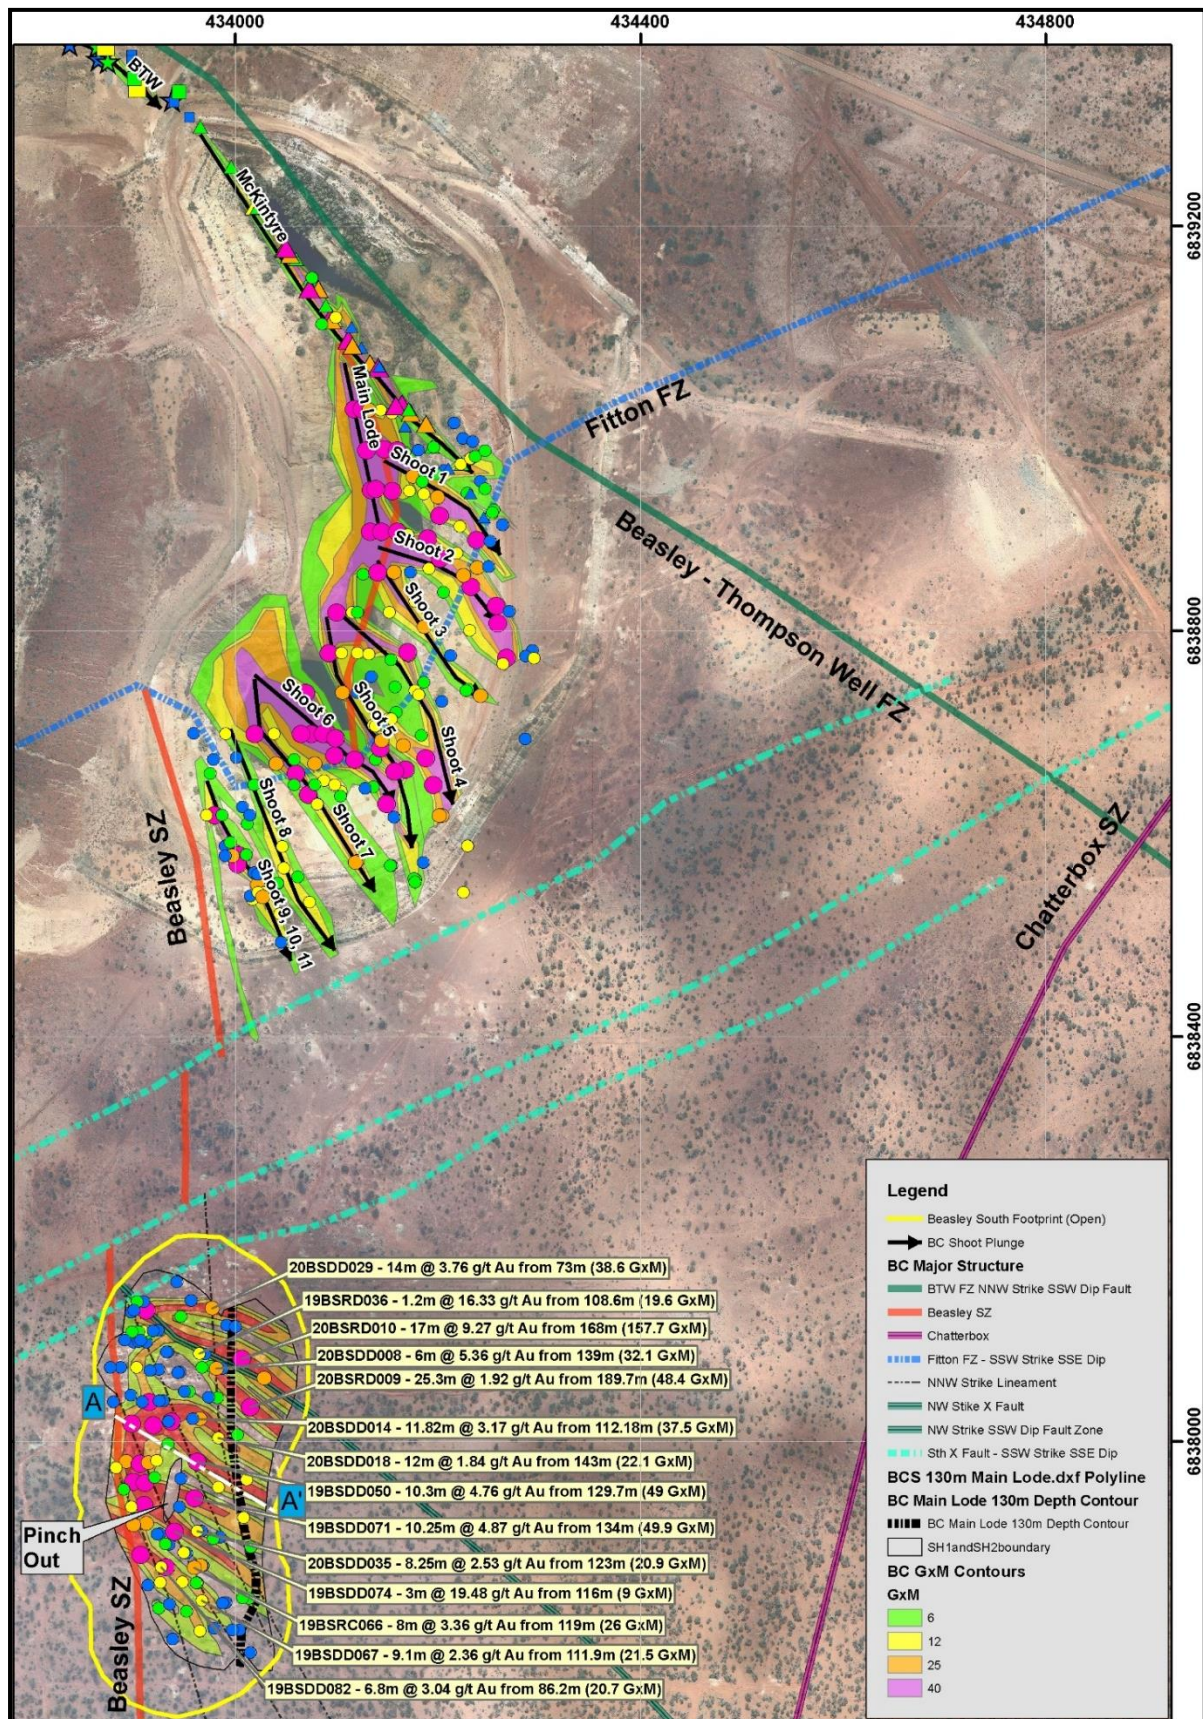

Figure 3: Beasley Creek to Beasley Creek South major structure and contoured GxM
- A small pinch-out to the mineralisation in the main lode has been confirmed and located by tighter spaced drilling (Figures 3 and 4). The pinch-out is located at 100m depth and corresponds with a small-volume, calc-silicate intrusion that locally reduces mineralised grade and width.